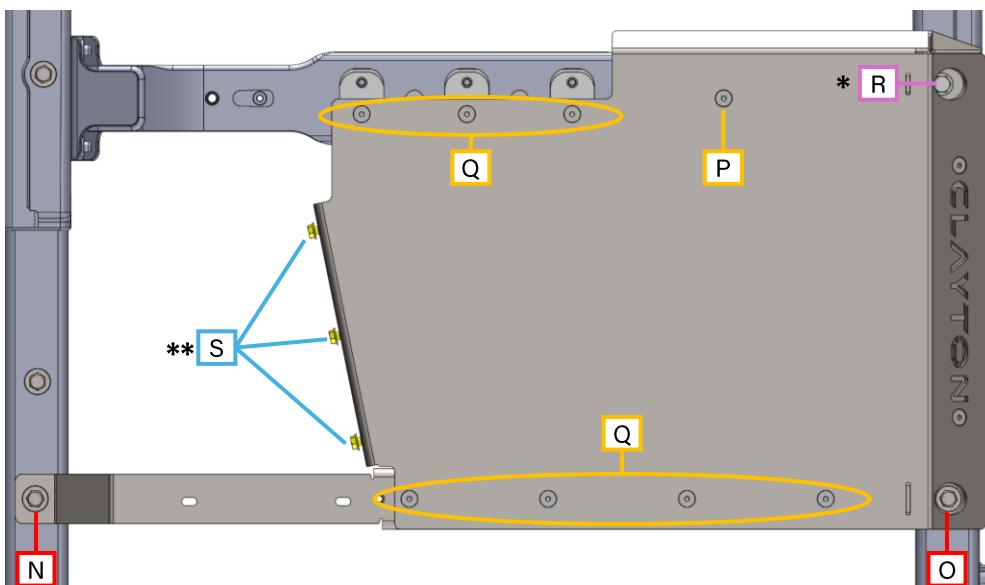

Figure 41 : bolt callouts on transfer case skid plate
34. Proceed with Table 2 while referencing Figure 41. Tighten the transfer case skid plate hardware to the following specification. Pay attention to the \* notes at the bottom of the page.